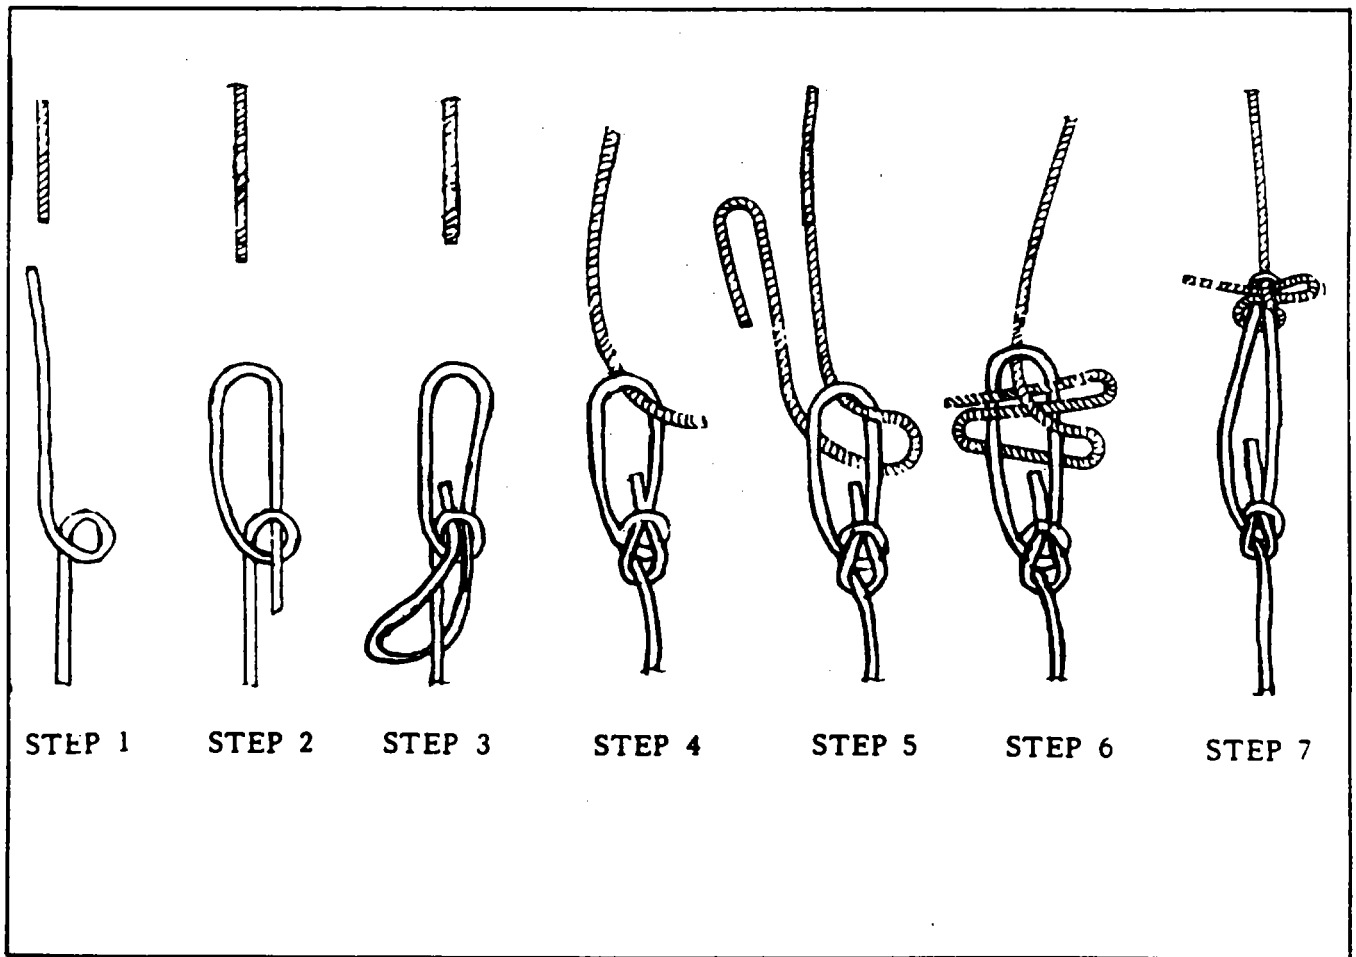

Figure 28-4. Fuel Cell Tie Detail
20. Draw the nylon tie cords tight and hold. Ascertain the cell is in correct position in the cell compartment. Again draw the cord tight, hold with clamp or pliers and tie. A recommended tie is shown in Figure 28-4.